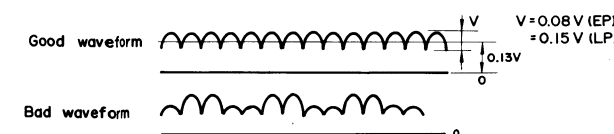

Figure 53-3
2) 4-COIL CURRENT (Refer to Figures 53-3 and 54-2)
2. Adjust the semi-variable resistors (VR1105 and VR1106) so that good waveform indicated in Figure 53-3.